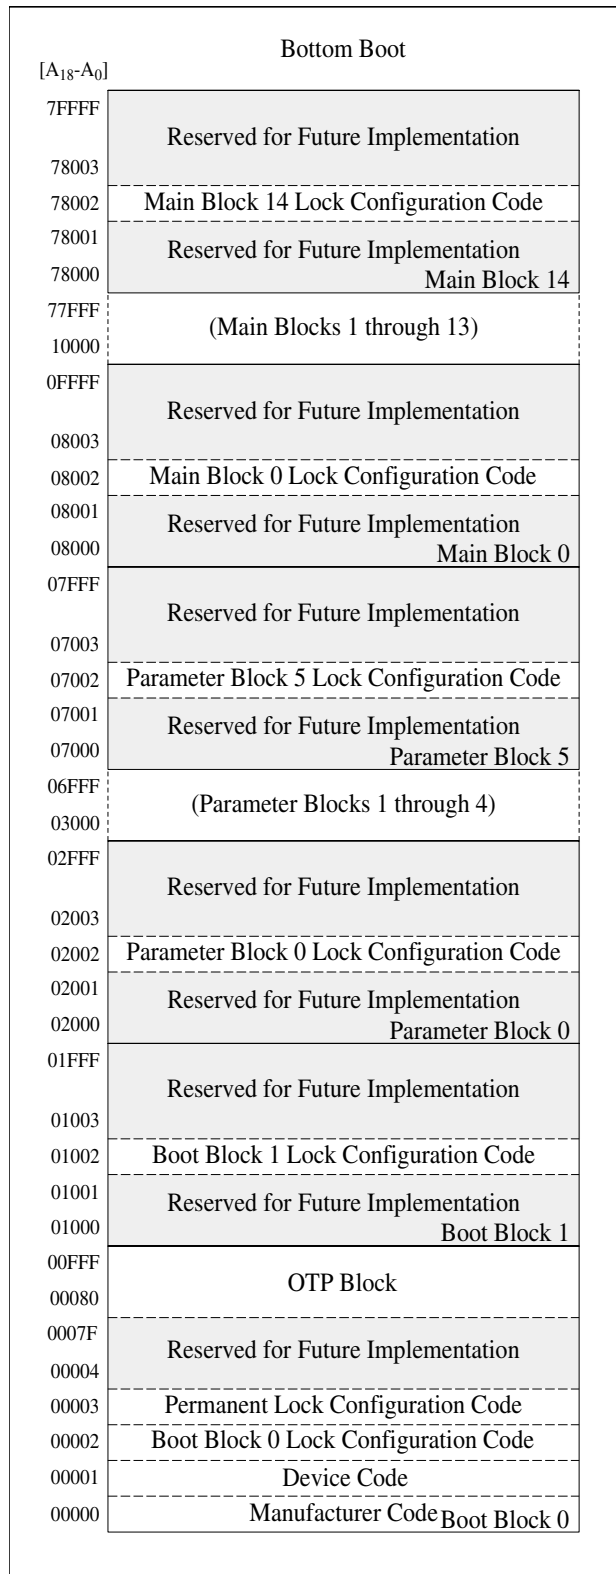

Figure 4. Device Identifier Code Memory Map
The read identifier codes operation outputs the manufacturer code, device code, block lock configuration codes for each block and the permanent lock configuration code (see Figure 4). Using the manufacturer and device codes, the system CPU can automatically match the device with its proper algorithms. The block lock and permanent lock configuration codes identify locked and unlocked blocks and permanent lock-bit setting.
IA=Identifier Code Address: see Figure 4.
The identifier code operation is initiated by writing the Read Identifier Codes command. Following the command write, read cycles from addresses shown in Figure 4 retrieve the manufacturer, device, block lock configuration and permanent lock configuration codes (see Table 4 for identifier code values). To terminate the operation, write another valid command. Like the Read Array command, the Read Identifier Codes command functions independently of the V_{CCW} voltage and $RP\#$ can be V_{IH} . Following the Read Identifier Codes command, the following information can be read:
1. BA selects the specific block lock configuration code to be read. See Figure 4 for the device identifier code memory map.